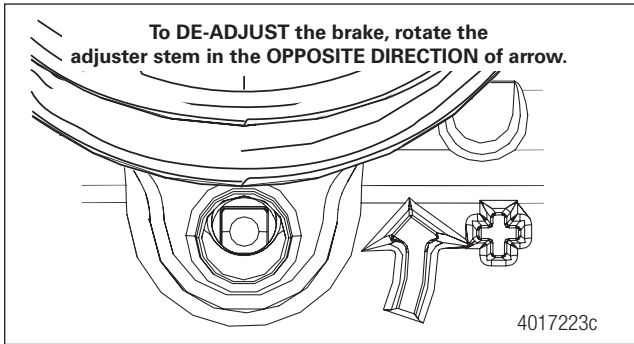
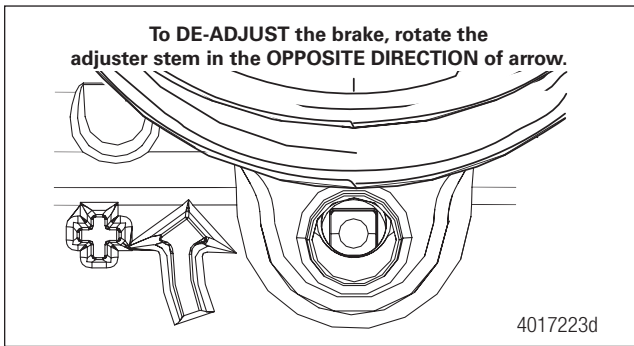
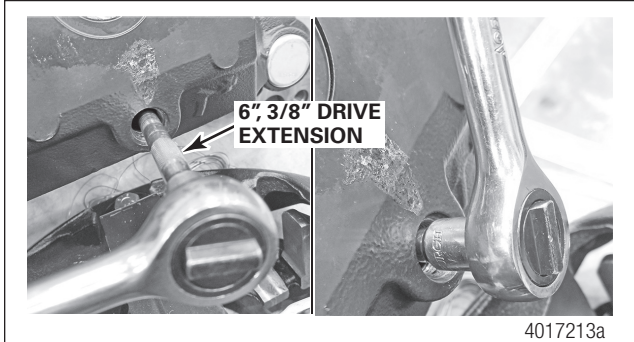

Figure 6.2 Adjustment Arrow Cast into the Caliper Housing (RH)
Figure 6.3 Adjustment Arrow Cast into the Caliper Housing (LH)
Figure 6.4 Rotate Adjuster Stem using Wrench with 6" 3/8-Drive Extension
3. Use a six-inch (6") standard 3/8" extension on a hand-held ratchet wrench to de-adjust the brake. Rotate the adjuster stem **IN THE OPPOSITE DIRECTION OF THE ARROW CAST INTO BACK OF HOUSING** until you feel the adjuster stem stop. De-adjustment requires more force than adjustment. Do not exceed 30 lb-ft (40 Nm) in either direction. Figure 6.2, Figure 6.3 and Figure 6.4.
When re-adjusting the brakes (rotating the adjustment mechanism **IN THE DIRECTION OF ARROW CAST INTO BACK OF HOUSING**), do NOT extend the piston beyond 3.75" (95 mm), from the stamped tappet plate to the outer face of the piston, or the piston can come completely out of the housing assembly. Figure 6.3. The brake housing assemblies do not have a travel stop feature to prevent the piston from over traveling. The risk of the piston rotating out of the housing assembly may be increased further if the caliper assembly is removed from the vehicle, or if the caliper assembly is left on the vehicle, but the rotor is in a worn condition. If the piston becomes disengaged from the threads, take care not to unseat the boot. Re-engage the threads and rotate the adjuster in the de-adjust direction to reseat the piston.